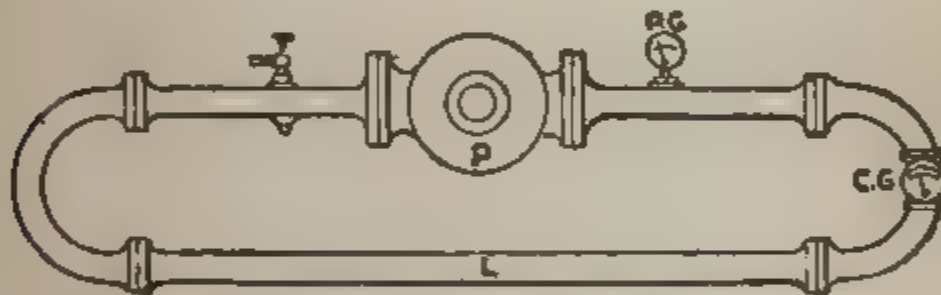
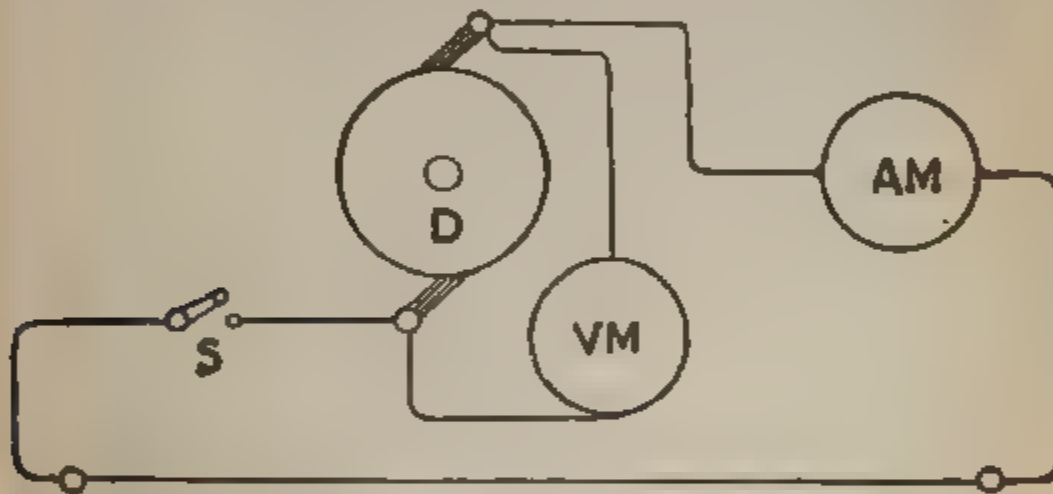

Fig. 139. Simple Hydraulic Circuit with Gauges
Fig. 140. A Simple Series Circuit, with Instruments.
To make the analogy between the water system and the electrical system more correct, we should suppose a closed circuit of pipes, as shown in Fig. 139, completely filled with water, having a rotary pump P in the circuit, and furnished with a tap R a pressure gauge PG, and a current gauge C G.
In the same way we have to think of an electrical circuit (Fig. 140). The dynamo D is simply a device for producing a difference of electrical pressure, and is put into the circuit to act exactly as the pump does in Fig. 139 if we switch on S, which is comparable with turning on the tap in Fig. 139, and start the dynamo working, the pressure gauge (called the voltmeter) VM will indicate a difference of electrical pressure or an E. M. F., and the current gauge (called an ampere-meter, or for brevity an ammeter) will indicate a current flowing round the circuit. In this case we are not generating electricity, but simply putting into motion electricity that was already there.
Going back to Fig. 139, suppose we turn off the tap T and keep the pump working, then the current meter will indicate no current, but the pressure gauge will indicate a slightly higher pressure than before. Here we have a water-moving force, but the resistance in the circuit is now exceedingly great, consequently no current can flow.
Similarly in Fig. 140 if we switch off, still keeping the dynamo running, the voltmeter will show a slightly higher pressure, while the ammeter will indicate no current. Here again we have the one essential for a flow of electricity round the circuit, but not the other, for in switching off we have introduced into the circuit an enormous resistance.
Let us return again to our water circuit (Fig. 139) and examine it more closely. Imagine the system to be quite full of water, and remember that water is a practically incompressible fluid. If now we have our pump at work with the tap turned off, we shall have a difference of pressure between the two sides of the pump but no current. The moment we turn the tap on the current
This is exactly the case with the current in Fig. 140. If the dynamo be at work we have an E. M. F. in the circuit, but while the switch is off no current can flow. The moment we switch on there is a current in the cir-
1. The E. M. F. in a simple circuit (Fig. 140) is 100 volts, the resistance of the whole circuit is 50 Ohms. What current will flow through the circuit?